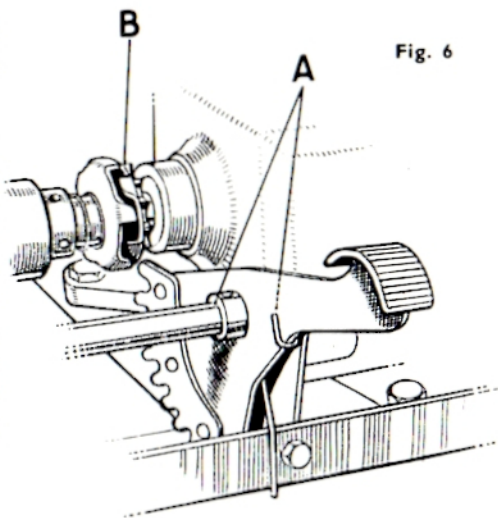

Fig. 6
5. Engage kickstarter (Fig. 6) with the starter free wheel and depress sharply, and if necessary repeat until engine fires. Do not remove the foot from the starter pedal, until you have allowed it to return gently to its position of rest.
- (b) On either side of the kickstarter and also kickstarter freewheel. (A and B, Fig. 6).